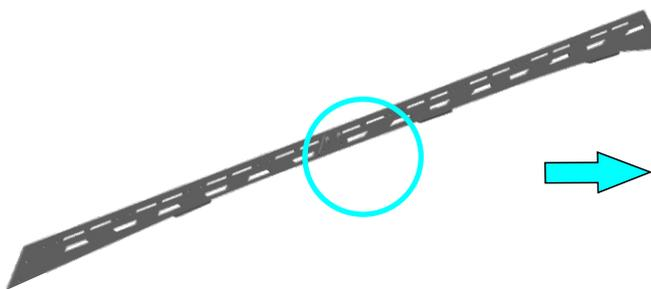

Fig. 10
9. Connect and secure left brackets (item 3 and 4) using central connecting bracket (item 5) and the supplied fitting: screws M6x25, washers M6, spring washers M6 and nuts M6 (items A, D, E, F) as shown in fig. 10 and 11.